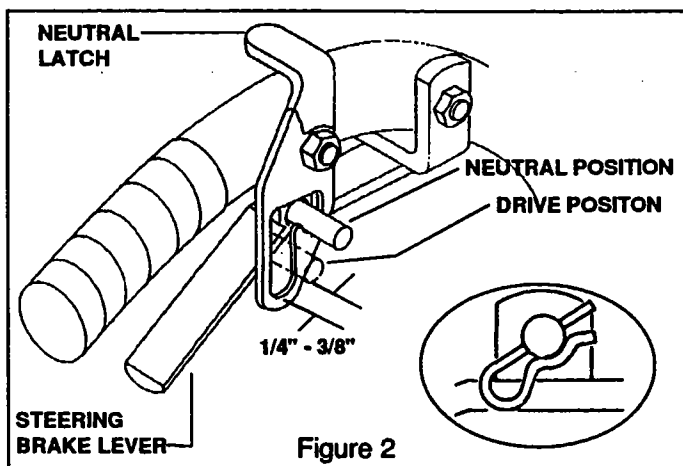

Figure 2
- b) Adjust the rods so that there is about a 1/4"-3/8" clearance to the bottom of the neutral latch slot when in the drive position. Secure with small hair pin cotter as shown (see fig. 2)
**NOTE:** Rods must allow neutral latches to be moved to the neutral position. (see fig. 2)
1. Steering control rods should have about 1/4" clearance between the bottom of the slot and the bottom of the rod when the steering levers are released (See fig. 2).